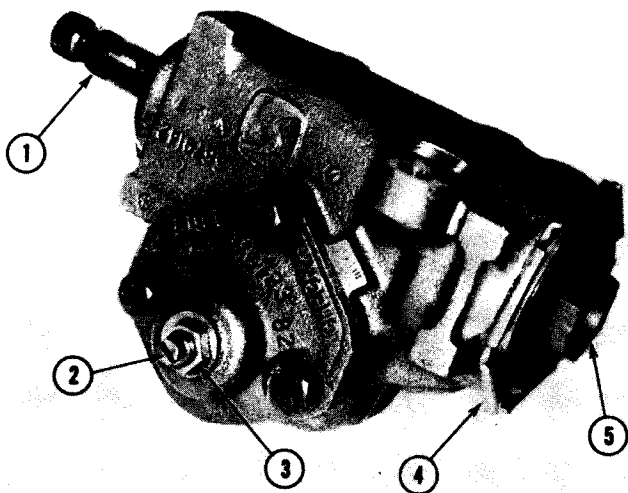

Figure 8-2
Remove lock nut (3, Fig. 8-2) from lash adjuster screw (2).
Place the lower ball bearing in the adjuster and secure with the retainer. Thread the adjuster (6, Fig. 8-2) into the housing until snug. Be sure the bearing is seated on the end of the shaft. Install the nut (5) but do not tighten.